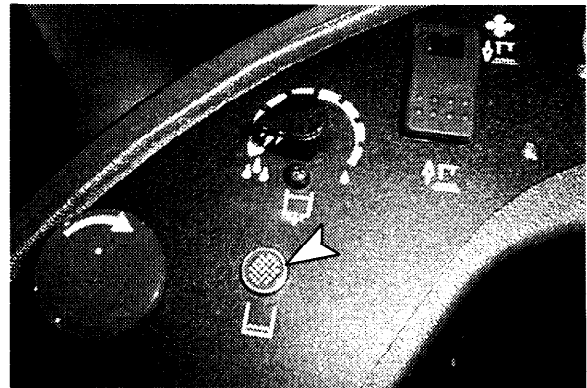

Figure 23
9. Observe solution low indicator, located on control console. When indicator light turns on, solution level is low and is approaching time to refill solution tank and drain recovery tank (See DRAINING TANKS) (Fig. 23).